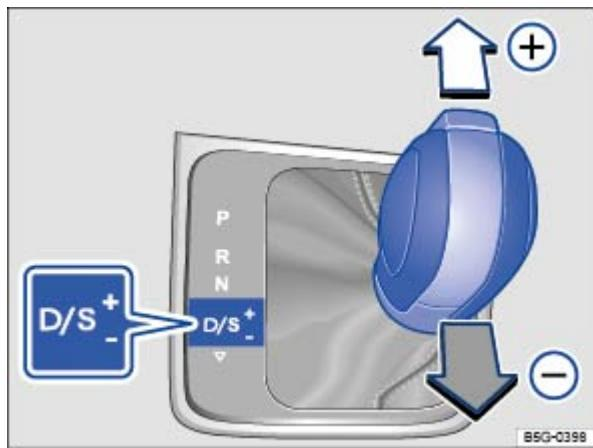

Fig. 114 Selector lever in Tiptronic position.
- Briefly push the selector lever forward  to upshift into a higher gear or backward  to downshift into a lower gear  Fig. 114 .